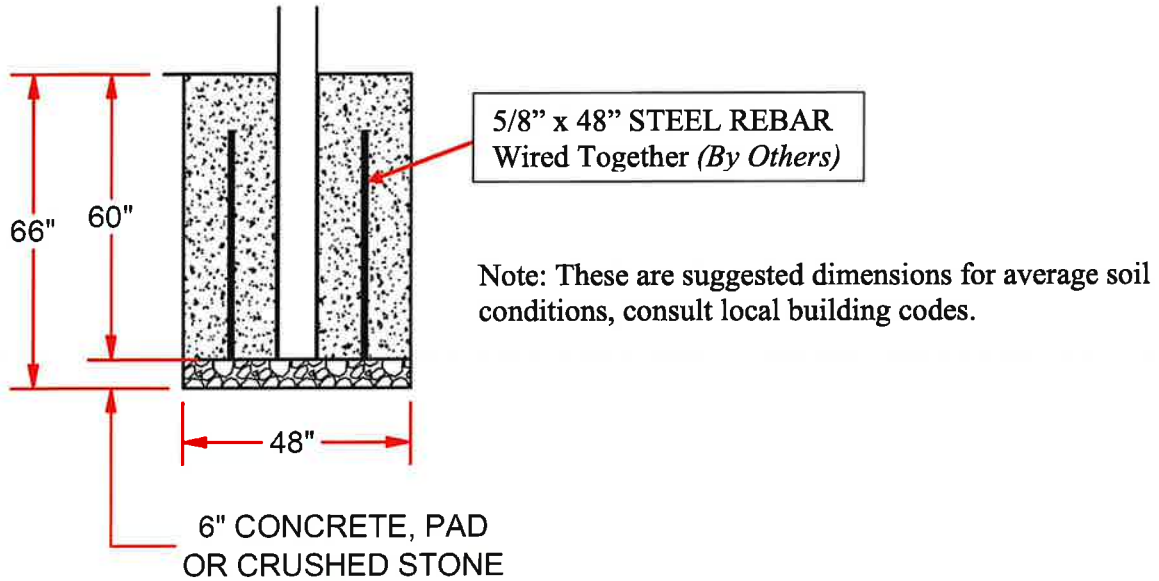

Figure 2
- 3) Dig footings as shown in Figure 2. A six-piece rebar basket is recommended. Pour a 6" concrete pad at the bottom of the footing, allow to cure for 24 hours.